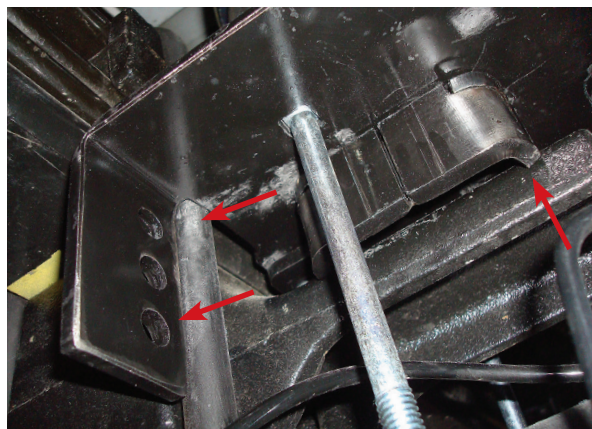

fig. D.17
1. With the vehicle supported by safety stands, drop the axle or raise the body so that the assemblies can be put into position in between the axle and frame. Set the driver's side and passenger's side assemblies into position so that the lower bracket cup nests on the jounce bumper strike plate. Push the lower bracket so that it is flush against the leaf spring stack and both flanges on the lower bracket are locked around the stock U-bolts (Fig. D.17).